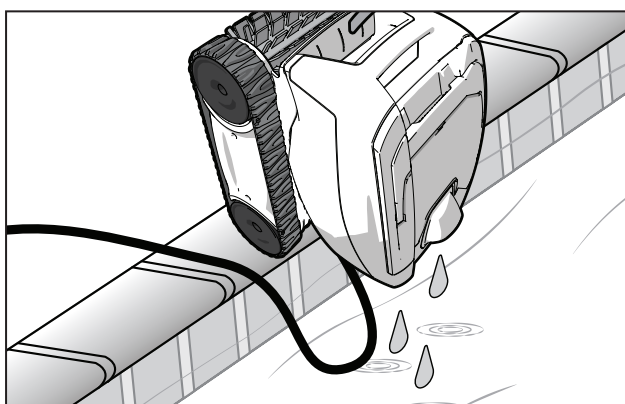

Figure 6. Drain Water from the Cleaner
3. Hold the cleaner vertically over the pool surface to drain water before removing (Figure 6).